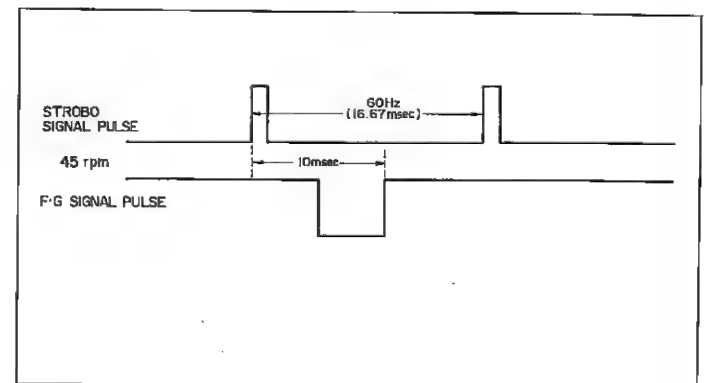

Figure 41
3. Next with the speed selector set at "45 rpm" position, further adjust the variable resistor VR6 so that strobo signal pulse and frequency generator's signal pulse will be shown in Figure 41.